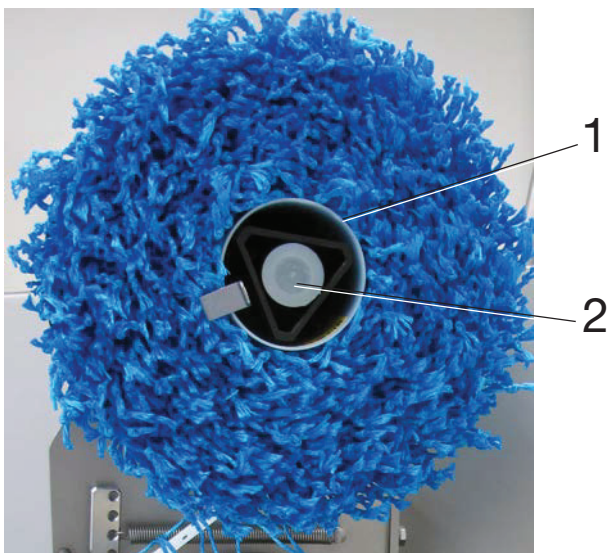

Fig. 5-11 1 Loop reel
- Push the loop reel (1, Fig. 5-11) onto the spindle (2, Fig. 5-11). The knot side of the loop must face outwards.